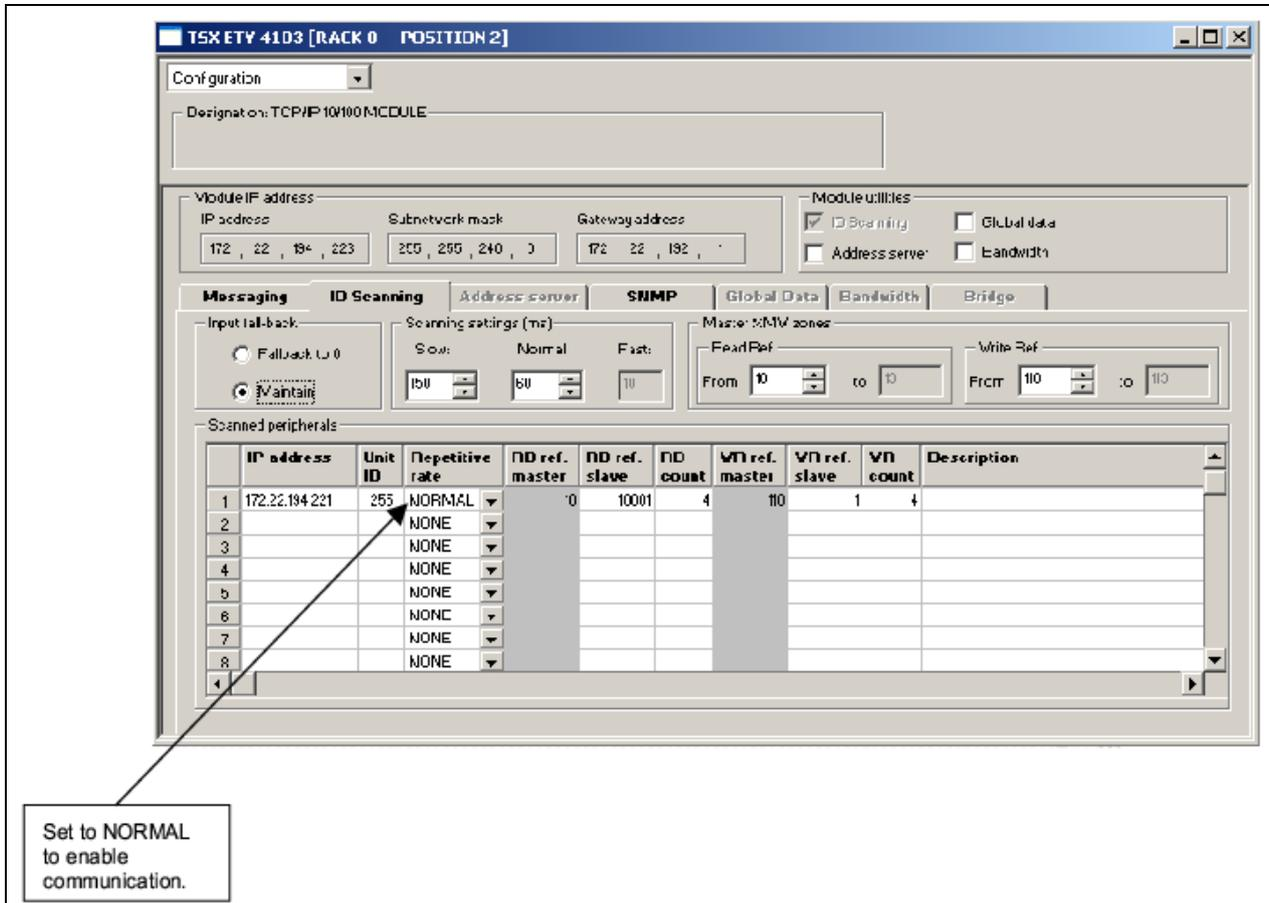

Fig. 3.8 Repetitive rate
11. Set the Repetitive rate to NORMAL to enable communication. See Fig. 3.8.